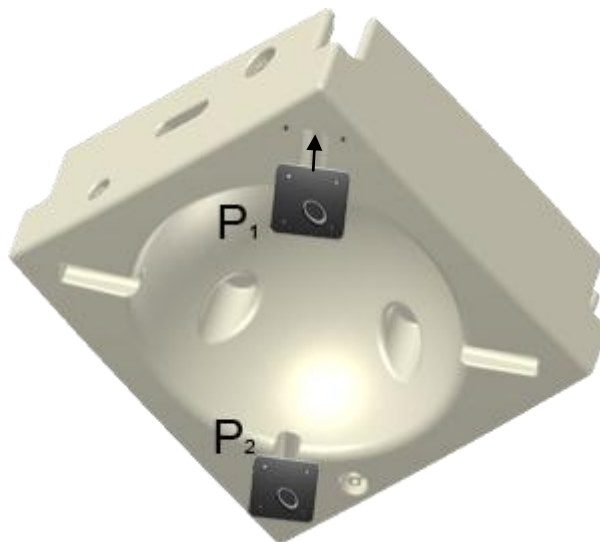

fig. 1
- 2 - Screw firmly anchor plates (if any) in the appropriate inserts in the base module (**fig. 1 – P1 e P2**);